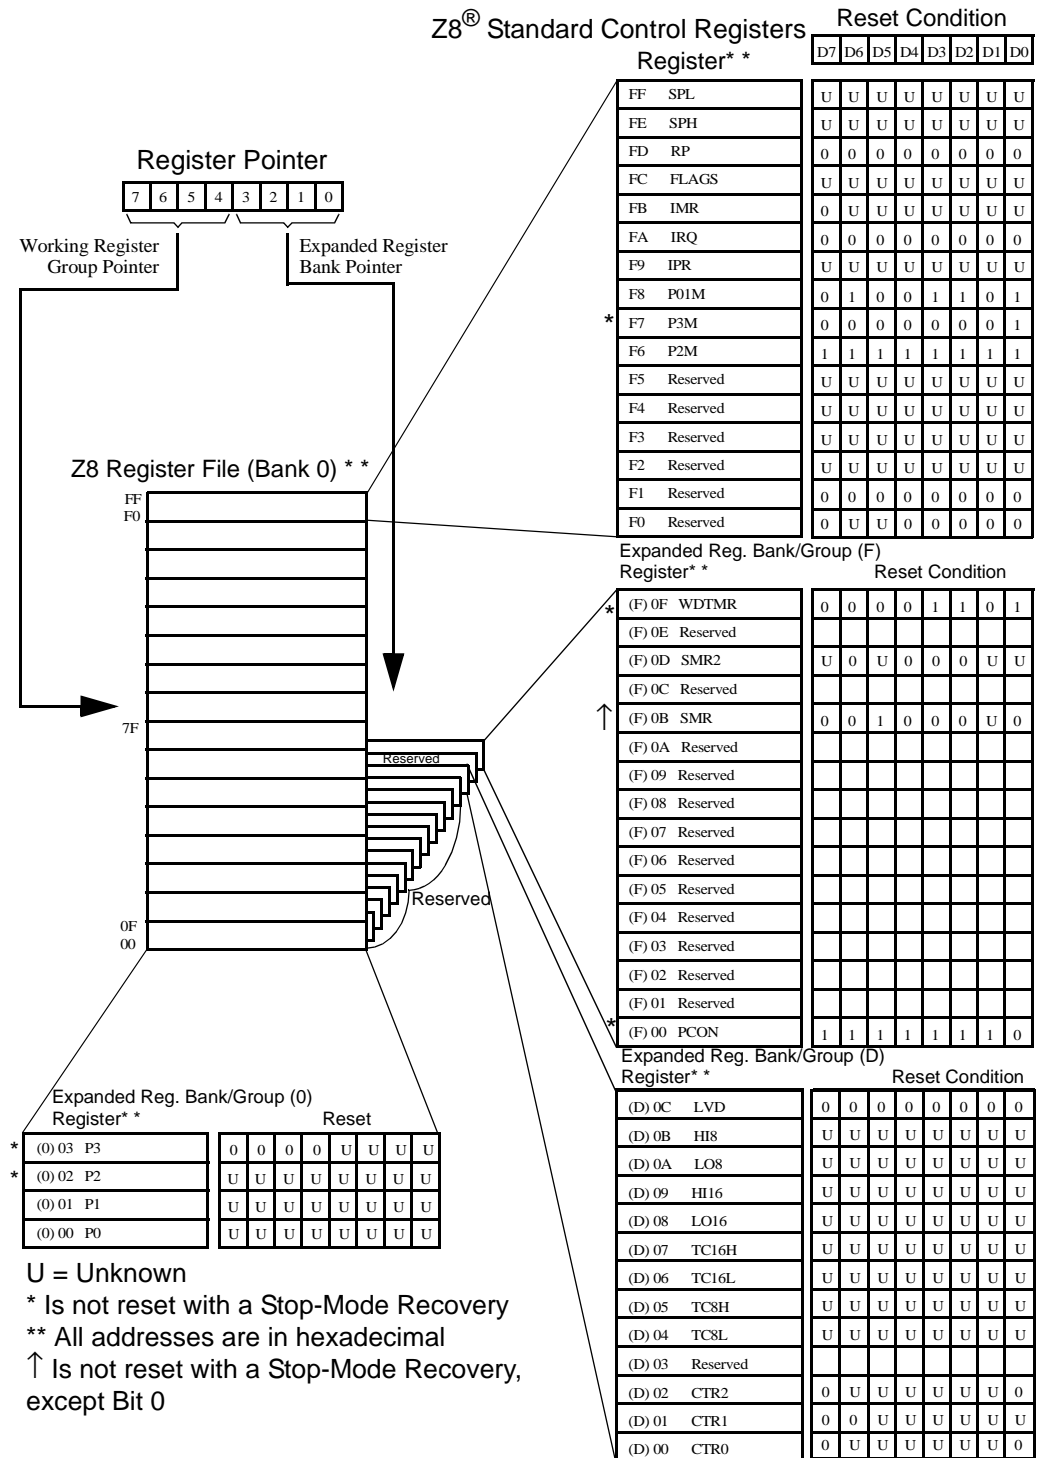

Figure 17. Expanded Register File Architecture
- ▶ **Note:** An expanded register bank is also referred to as an expanded register group (see Figure 17).
Example: Z86L87/89/73/987: (See Figure 17 on page 31)